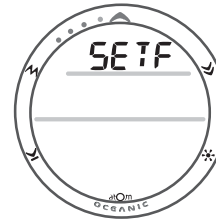

Fig. 41 - SET F
- > Depressing the A and S buttons simultaneously for 2 seconds while the NORM or GAUG SURF MAIN screen is displayed will access SET F identified by the graphic SET F (Fig. 41).